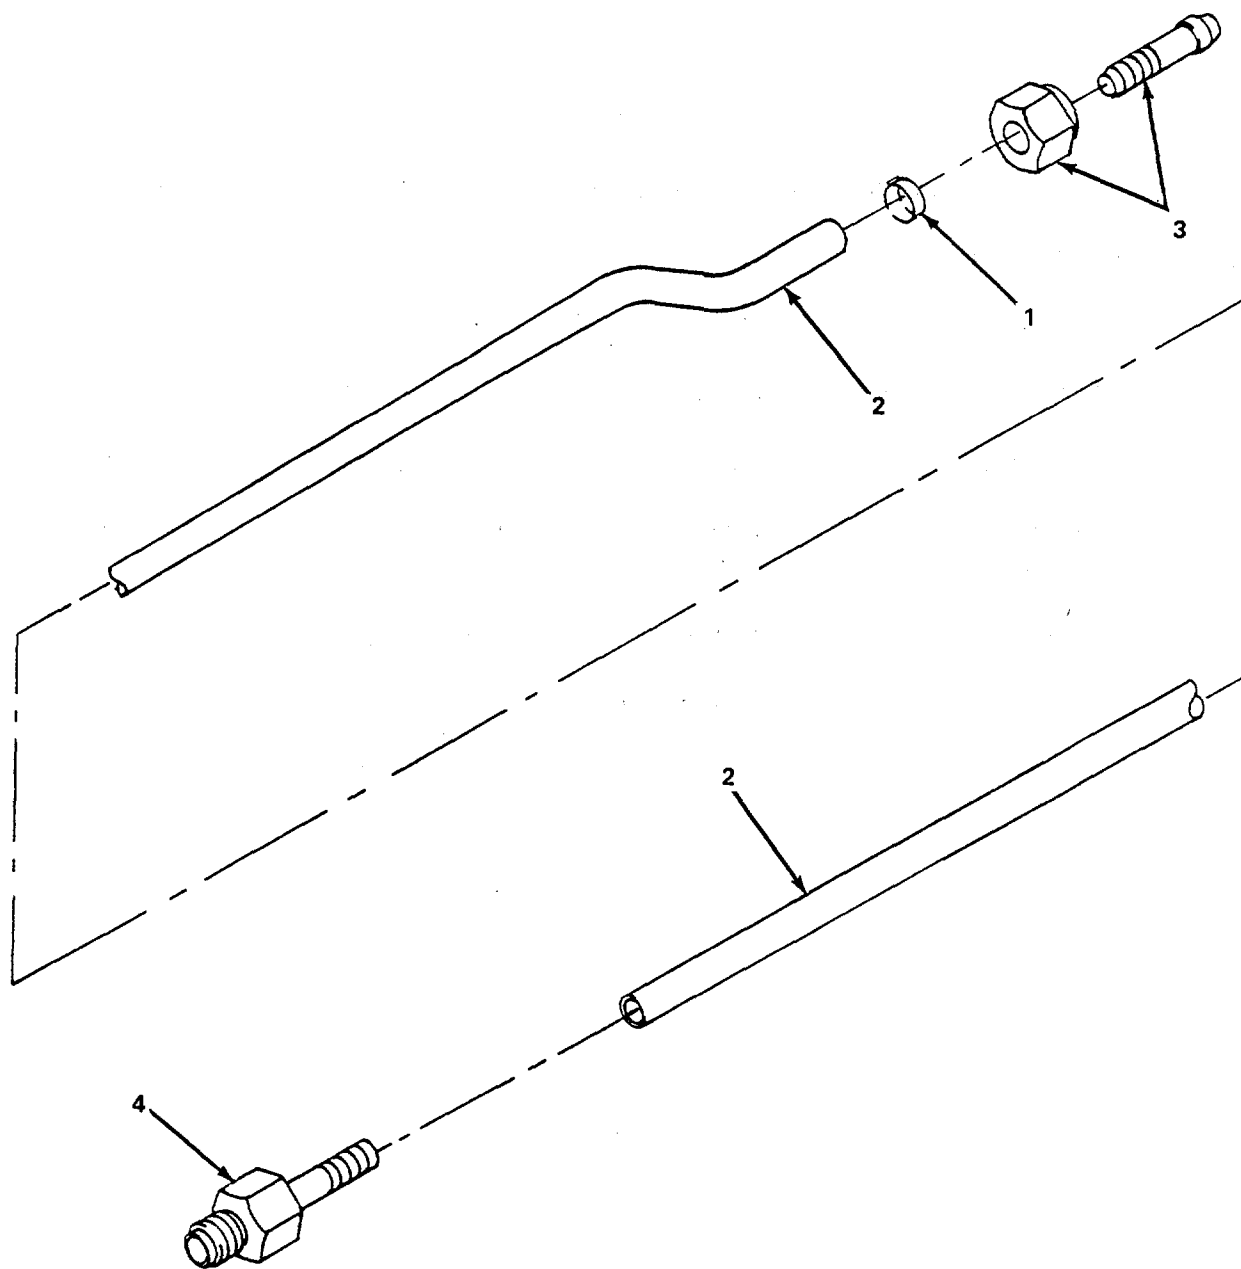

Figure 6-1. Air Supply Hose, Fabrication.
- (1) *Air supply hose.* (figure 6-1)
- (b) Place three clamps (1) over the end of the hose (2), alternating their position.
- (c) Insert an extra-long-gland female connector (3) into the diver's end of the air supply hose (2).
- (d) Move the clamps (1) toward the connector (3) until they are evenly spaced over the gland, 1/2-inch from the end of the hose and 1/2-inch between clamps.
- (f) Repeat steps (a) through (e) for surface end and substituting an extra-long-gland male connector (4).